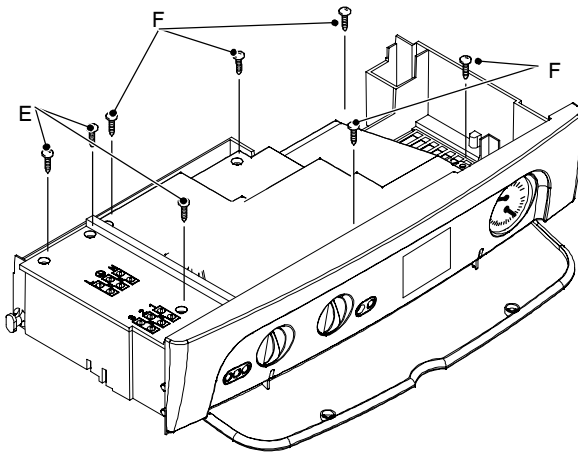

Fig. 2.5
- 5 Remove the screws *E* and remove the service panel (Fig. 2.5).
- 6 Remove the screws *F* and remove the control panel lid (Fig. 2.5).